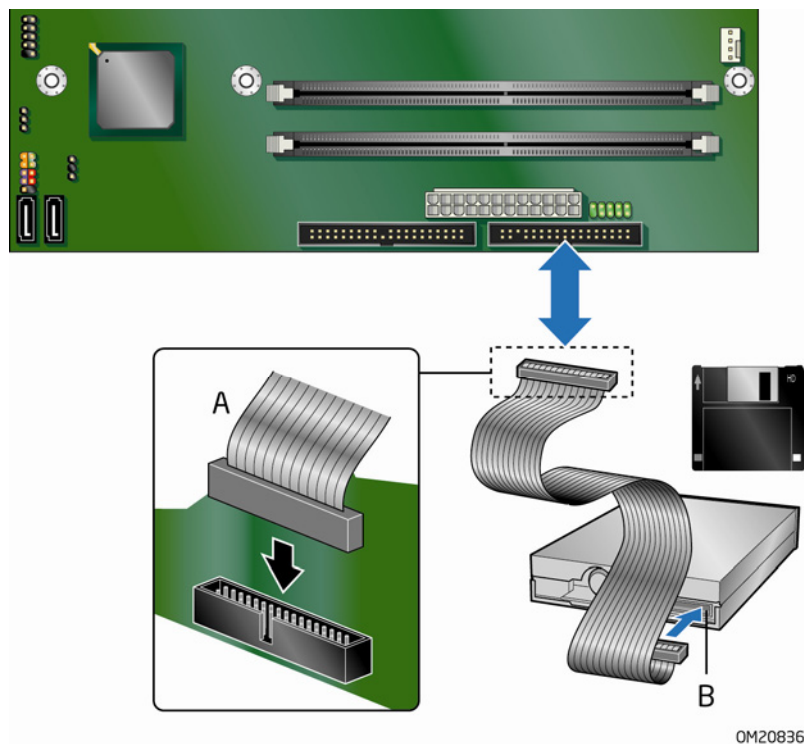

Figure 16. Connecting the Diskette Drive Cable
2. Attach the cable end labeled P1 to the diskette drive connector on the Intel Desktop Board (Figure 16, A).
3. Attach the cable end labeled P2 to the diskette drive (Figure 16, B).